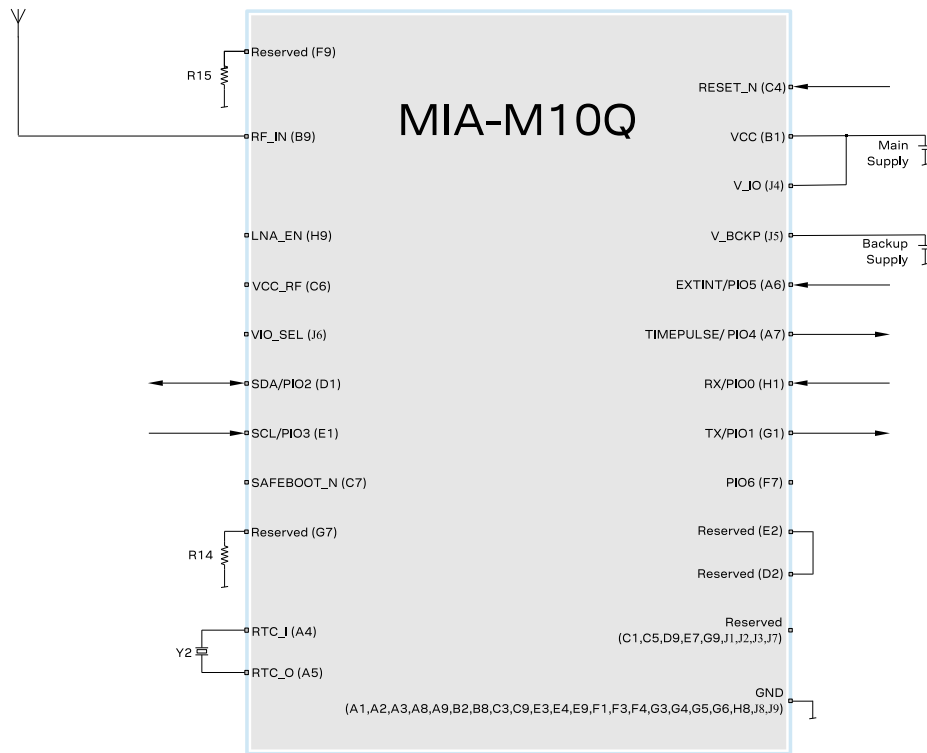
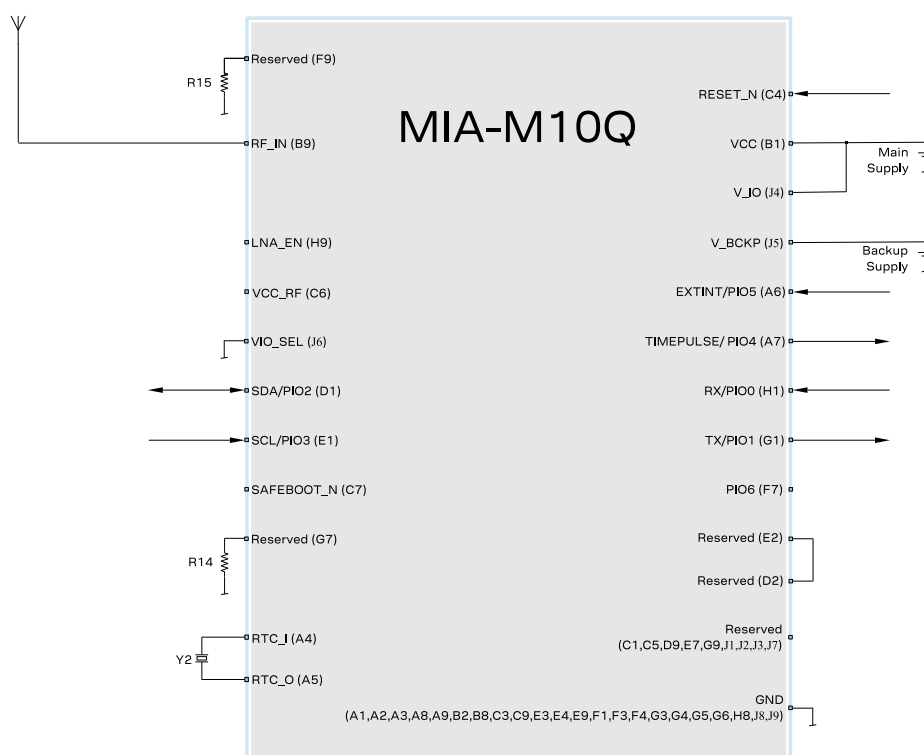

Figure 37: Typical 3.3 V design
Figure 38: Typical 1.8 V design
- VCC and V_IO are connected together to a single supply. In designs with 3.3 V supply, the VIO_SEL pin must be left open, as shown in Figure 37. In designs with 1.8 V supply, the VIO_SEL pin must be connected to GND, as shown in Figure 38.